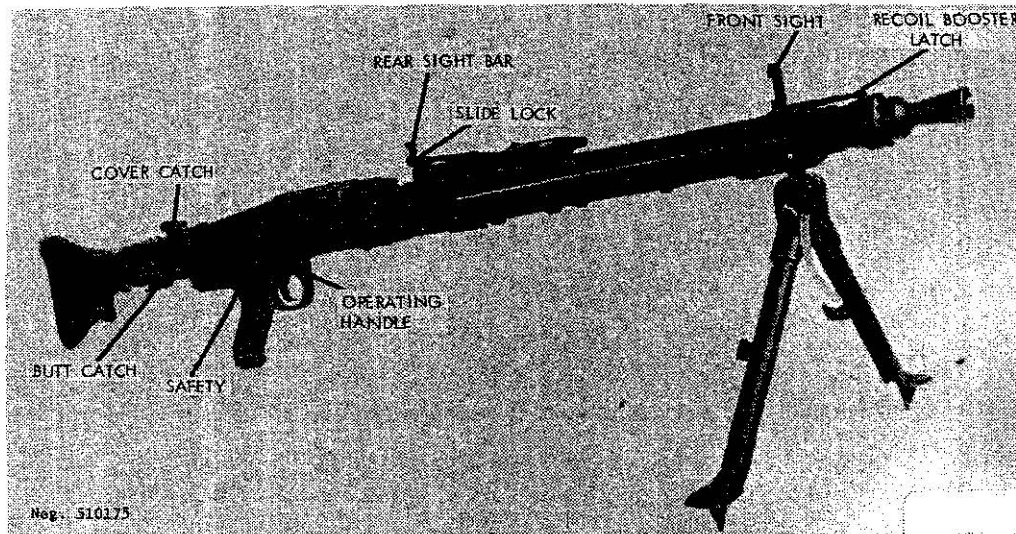
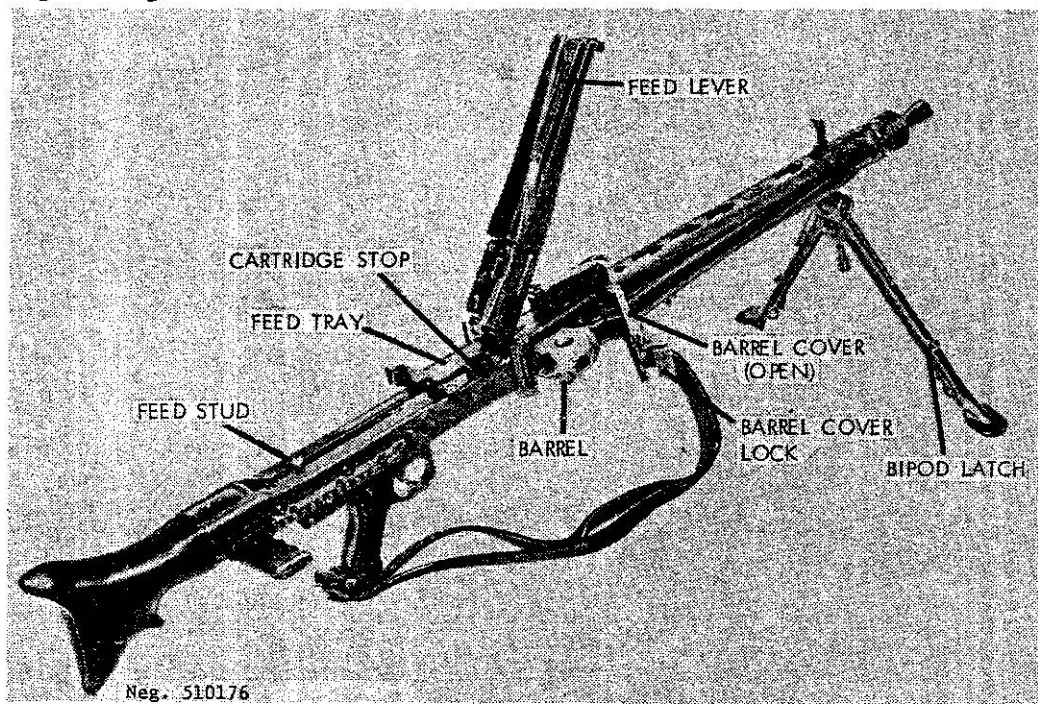

Figure 176. West German MG1 or MG3 machinegun.
Figure 177. MG 42, MG1, MG3 barrel change.
b. The Rheinmetall gun is known either by its commercial designation of MG-42/59, or by the West German Military designation of MG-1 (fig 176). There are several variations of the MG-1. The original MG-1, in 7.62x51-mm NATO, was almost identical to the old MG-42; the MG-1A1, chambered for the
b. Grasp the operating handle (fig 176), pull it fully rearward, and then thrust it forward. This cocks the gun's mechanism. Press the safety (fig 176) fully to the left to lock the gun in its safe position.
d. If the feed belt does not have a feed tab, the cover must be opened. Press the cover catch (fig 176) forward and swing the cover up and forward. Place the belt so that the first cartridge rests against the stop (fig 177) in the feed tray and the belt or link is between the stop and inner rear edge of the feed tray. Close the cover. The barrel should be changed after each 150 rounds (three belt sections) of continuous fire. To change barrels, pull the operating handle to the rear. Push forward on the barrel-cover lock (fig 177) until the barrel cover swings out. The rear end of the barrel will be pulled out of the receiver, and it can then be easily removed to the rear. (CAUTION: The barrel may be hot.) Thrust a cool barrel into the jacket as far as it will go and close the barrel cover. Insure that the barrel cover lock is caught, push the operating handle forward, and resume fire.
b. Press the butt catch (fig 176) and rotate the butt while pushing it in against the force of the driving spring. The butt will disengage from the receiver; ease the butt away from the receiver. Pull the driving spring out of the receiver.
e. Lift the recoil-booster latch (fig 176) and unscrew the recoil booster; thoroughly clean it of carbon and firing residue. Remove the barrel (para 160g) and thoroughly clean it. Reinstall the barrel, and screw the recoil booster back onto the front of the receiver.
h. The recoil and counterrecoil movement of the bolt operates the feed mechanism. A long, curved belt-feed lever, pivoted at the rear end of the cover, has a channel running along its length. This channel fits over a roller or stud at the top rear of the bolt carrier (fig 179). As the bolt moves rearward in recoil (in a straight line), the roller causes the front of the curved belt-feed lever to move sideways. The belt-feed lever, in turn, operates an intermediate feed lever; this lever (fig 177) fits into the belt-feed slide and moves the slide back and forth. A spring-loaded feed pawl, mounted on the slide, rides on the ammunition belt and feeds it into the gun. The cartridges are held in the feed tray's feed slot by a cartridge hold-down; this part also serves a pawl to hold the belt in the gun.